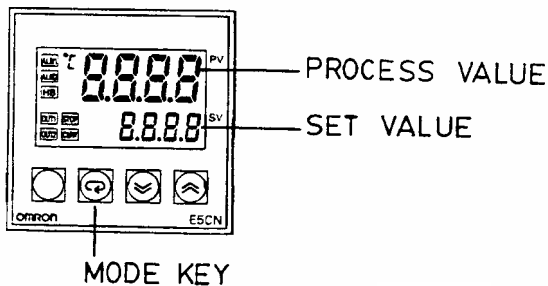

Fig 1
- Red light indicates actual temperature and yellow light indicates setting temperature. Then press the increase or decrease switches to achieve the desired setting on the digital display (Refer to Fig. 1)
- Press controller mode key until AL-1 (alarm) is illuminated. This setting should always remain at 200 C. (Refer to Fig. 1)
- The drive motor cannot start until the temperature reaches the alarm setting. After checking the alarm setting, press the controller mode key twice. The controller will now display the actual temperatures. (Refer to Fig. 1)